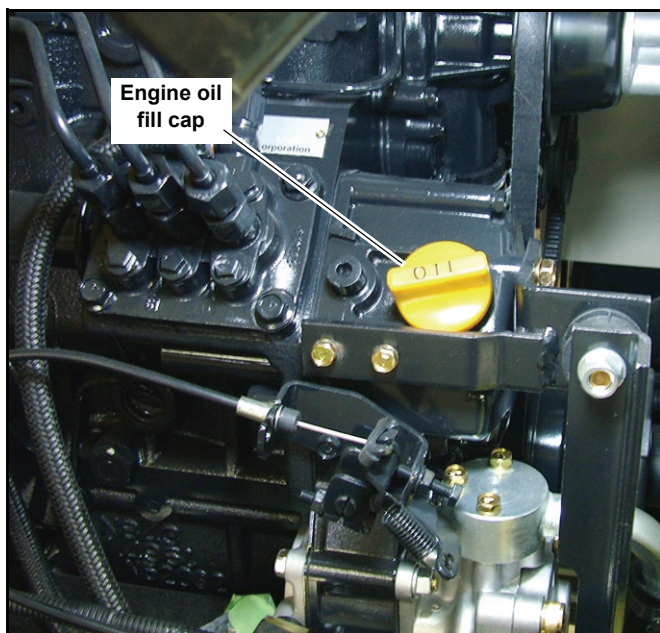

Figure 4-14
Refer to Figure 4-14 for the engine oil fill location.
2. Add oil at the oil fill shown. Figure 4-14